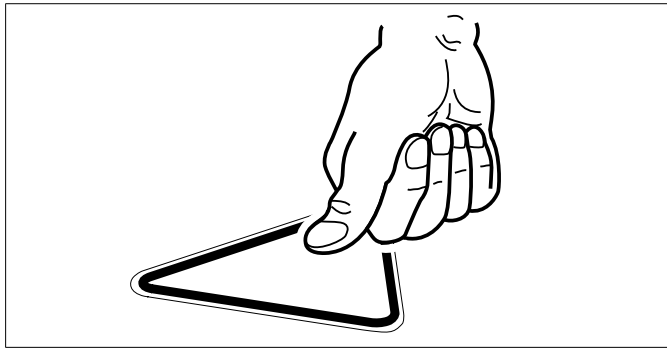

fig. 4 Adhesion of safety label
4. Stick the safety label onto the cleaned area; see fig. 4.